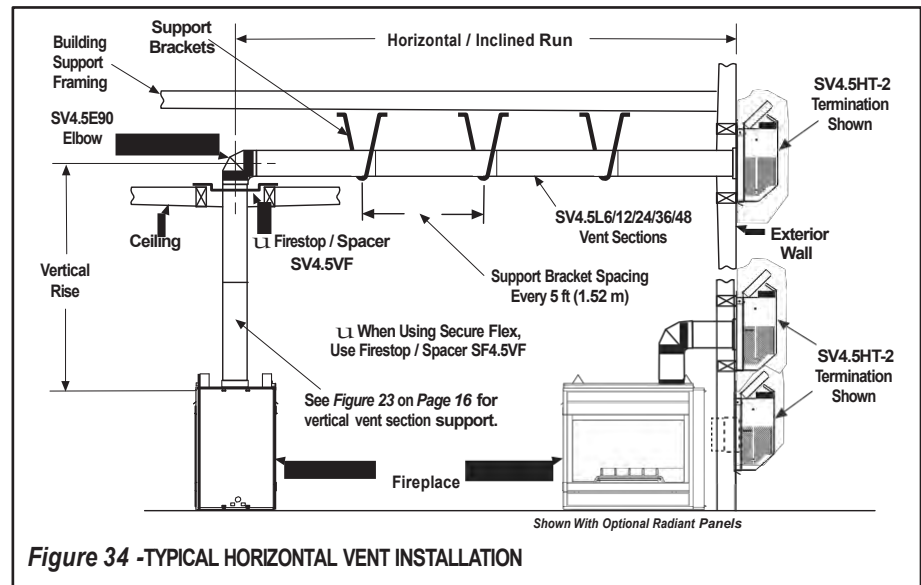

Figure 34 - TYPICAL HORIZONTAL VENT INSTALLATION
Figures 34, and Figures 37 to 42 on pages 24 to 26 and their associated Horizontal Vent Table illustrate the various horizontal venting configurations that are possible for use with these appliances. **Secure Vent** pipe applications are shown in these figures; **Secure Flex** pipe may also be used. A Horizontal Vent Table summarizes each system's minimum and maximum vertical and horizontal length values that can be used to design and install the vent components in a variety of applications.
I. Continue installation of horizontal/inclined sections - Continue with the installation of the straight vent sections in horizontal/inclined run as described in **Step E**. Install support straps every 5 ft. (1.52 m) along horizontal/inclined vent runs using conventional plumber's tape. See **Figure 34**, it is very important that the horizontal/inclined run be maintained in a straight (no dips) and recommended to be in a slightly elevated plane, in a direction away from the fireplace of 1/4" rise per foot (20 mm per meter) which is ideal, though rise per foot run ratios that are smaller are acceptable all the way down to at or near level. Use a carpenter's level to measure from a constant surface and adjust the support straps as necessary.